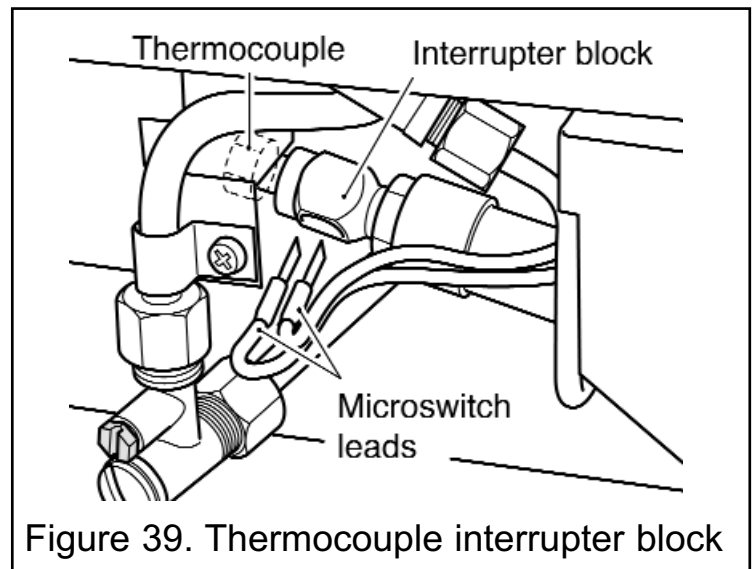

Figure 39. Thermocouple interrupter block
2. Loosen the thermocouple nut to free the microswitch leads and pull the leads clear of the thermocouple interrupter block (See figure 39).
(See figure 39).